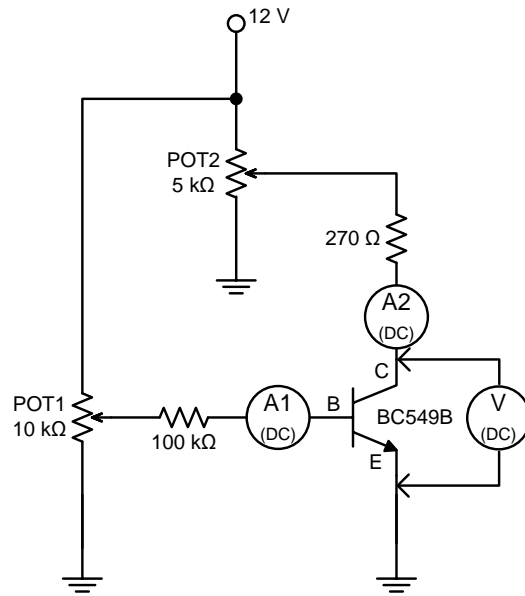

Figure 3.
3.1 Build the circuit as given in Figure 3.